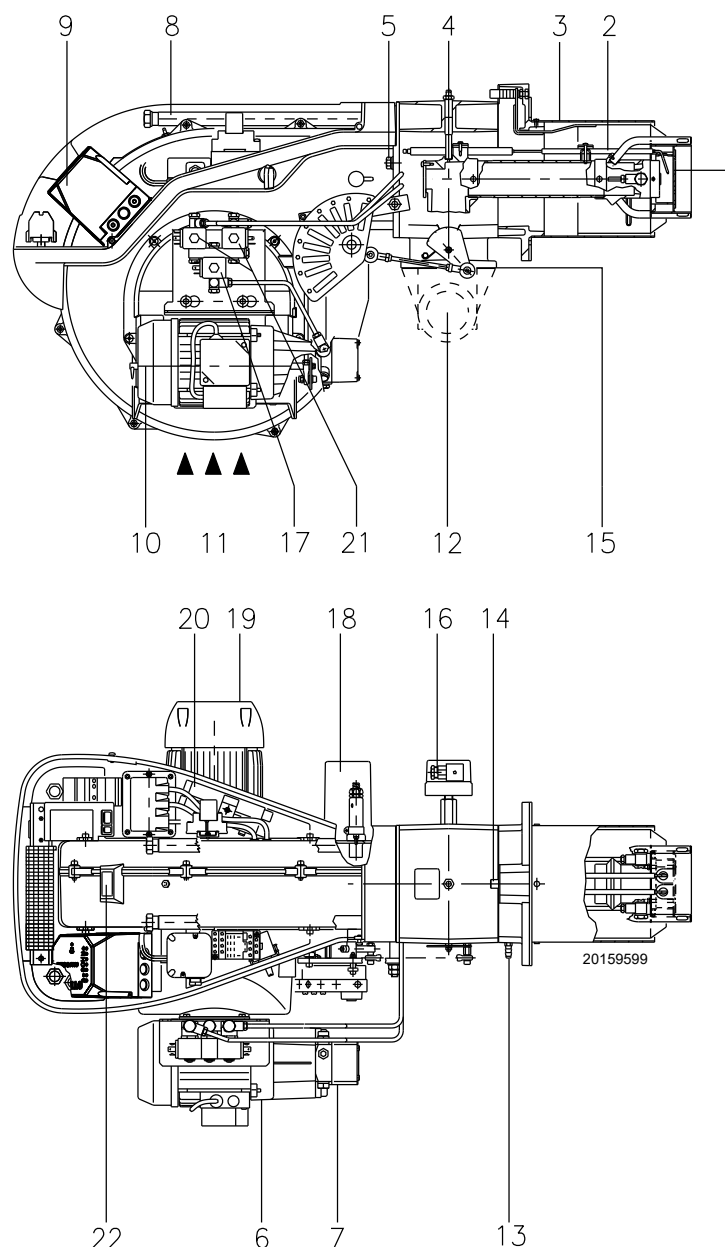

Fig. 6
(1) Reference conditions: Ambient temperature 20°C - Gas temperature 15°C - Barometric pressure 1013 mbar - Altitude 0 m a.s.l.
(2) Pressure at test point 5)(Fig. 6) with zero pressure in combustion chamber and at maximum burner output.
(3) Sound pressure measured in manufacturer's combustion laboratory, with burner operating on test boiler and at maximum output. The sound power is measured using the "Free Field" method, required by EN 15036 standard, and according to an "Accuracy: Category 3" measurement, as described in EN ISO 3746.
control box lockout: if the control box 9)(Fig. 6) push-button lights up, it indicates that the burner is in lockout. Press the push button to reset.